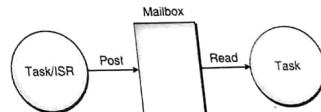

Fig. 13.7.1 : Mailbox implementation
- Fig. 13.7.1 shows the mailbox implementation.